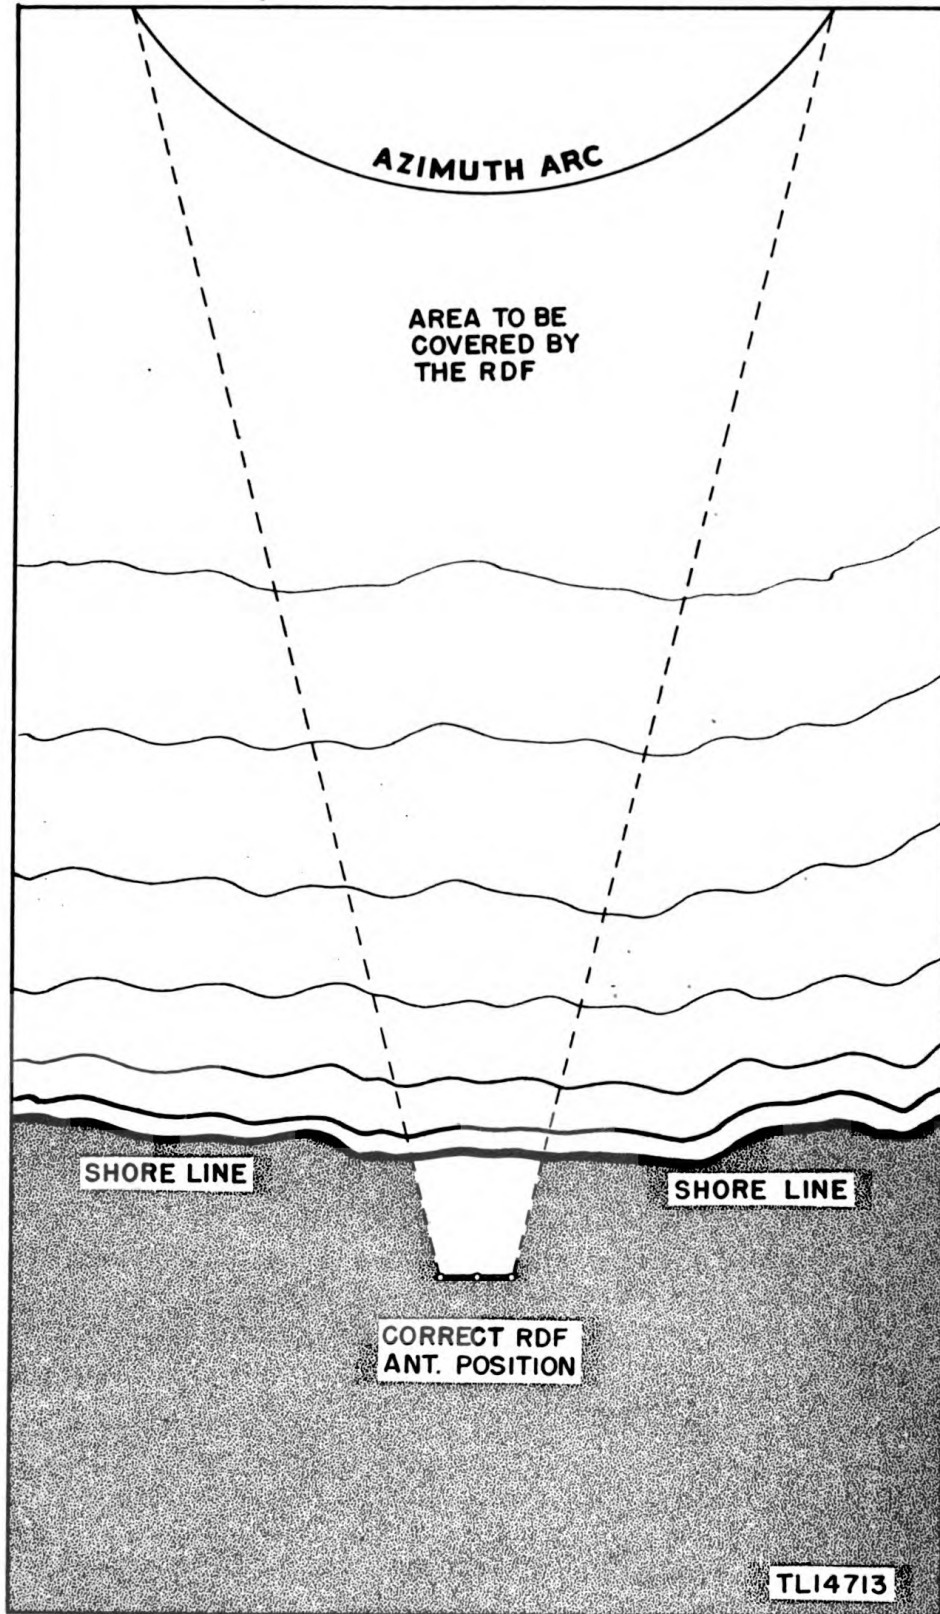

Figure 7. Correct placement of antenna for coastal installation.
- (1) The area should be substantially flat for at least 100 yards from the RDF antenna and should not have more than a gentle slope for several times that distance.
- (2) The area should be the highest level area in the vicinity. A site in a valley is generally unsatisfactory.
- (3) Mountains or hilly country should be avoided whenever possible.
- (4) The area should be removed as far as possible from the coastline of large bodies of water. If the installation must be made on or near the coast, the flattest area should be selected and the antenna erected in such a position that the azimuth arc to be serviced is as nearly perpendicular to the coastline as possible (fig. 7).
- (5) The earth at and around the site should have uniformly high conductivity and moisture content. Areas uniformly covered with grass or vegetation usually meet this requirement. Rocky or sandy soil is poor as a site; however, areas having uniformly low conductivity are preferable to areas having high conductivity spotted with rock formations, sand, or varying moisture content.
- (6) Regions where there are abrupt discontinuities of the earth's surface should be avoided as this usually indicates the presence of rock or mineral outcroppings, or underground streams.